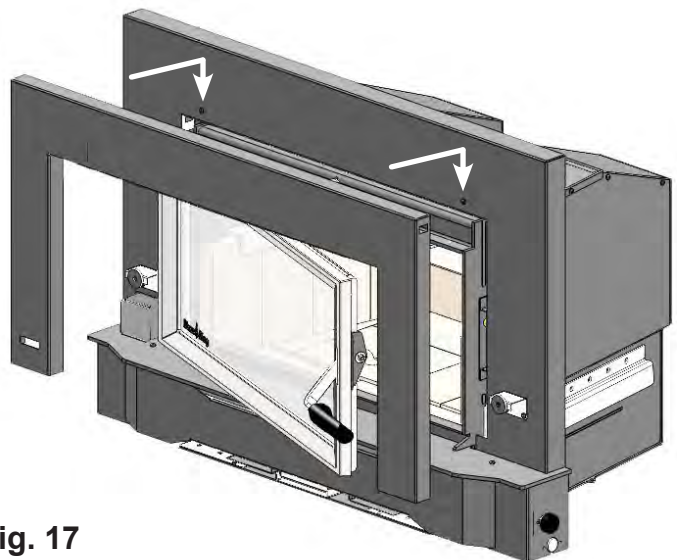

Fig. 17
6. **WITH THE LOADING DOOR OPEN** , align outer shroud notches with the protruding screws on the rear shroud, then hang. The bottom of the outer shroud is held in place by magnets. (Fig. 17)